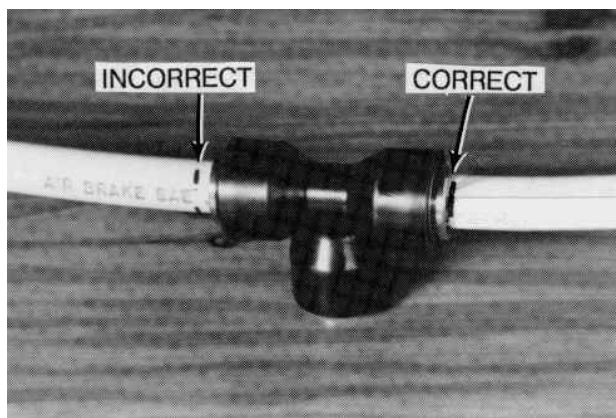

Figure 112 A Secure Fitting
15. Lubricate the tube end and install it to the correct insertion depth (Figure 112). Install the tube by pushing it straight into the fitting. The insertion depth mark should be flush with the face of the fitting (Figure 112). Gently tug on the tube to make sure it is secured in the fitting.